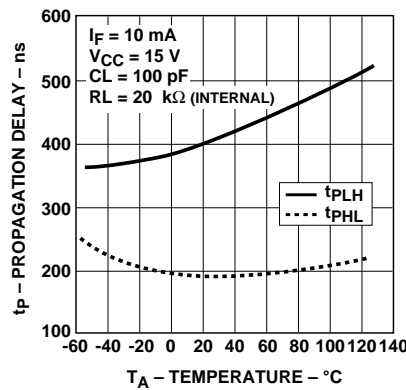

Figure 8. Propagation Delay with Internal 20 kΩ RL vs. Temperature.
- Due to the tolerance of the internal resistor, and since propagation delay is dependent on the load resistor value, performance can be improved by using an external  $20\text{ k}\Omega$  1% load resistor. For more information on how propagation delay varies with load resistance, see Figure 8.